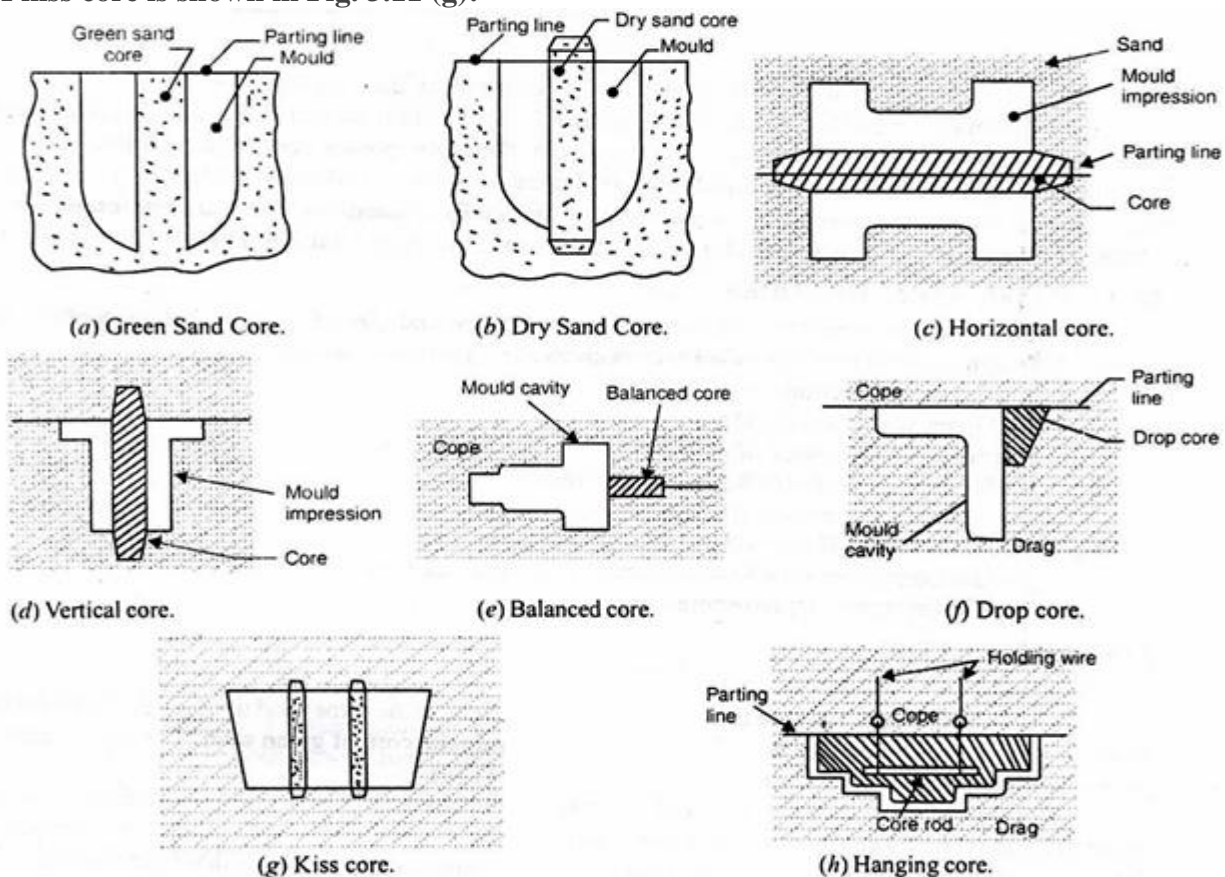

Fig. 3.11. Type of cores.
A core formed by the pattern itself, in the same sand used for the mould is known as green sand core. The pattern is so designed that it provides the core of green sand. The hollow part in the pattern produces the green sand core. It is shown in Fig. 3.11 (a).
A core is prepared separately in core boxes and dried, is known as dry sand core. The dry sand cores are also known as process cores. They are available in different sizes, shapes and designs as per till requirement. Dry sand core is shown in Fig. 3.11. (b).
The horizontal core is the most common type of core and is positioned horizontally at the parting surface of the mould. The ends of the core rest in the seats provided by the core prints on the pattern. This type of core can withstand the turbulence effect of the molten metal poured. A horizontal core for gear blank mould is shown in Fig. 3.11 (c).
The vertical core is placed vertically with some of their portion lies in the sand. Usually, top and bottom of the core is kept tapered but taper on the top is greater than at bottom. A vertical core is shown in Fig. 3.11 (d).
The hanging core is suspended vertically in the mould. This is achieved either by hanging wires or the core collar rests in the collar cavity created in the upper part of the mould. This type of core does not have bottom support. A hanging core is shown in Fig. 3.11 (h).
The drop core is used when the core has to be placed either above or below the parting line. A drop core is shown in Fig. 3.11 (J). This core is also known as wing core, tail core, chair core, etc.
A kiss core is shown in Fig. 3.11 (g):